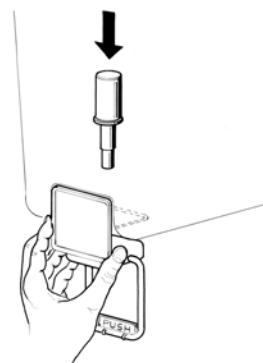

figure 3
- 2 **Gravity faucet:** install the faucet handle and the piston with its gasket (see figure 3).